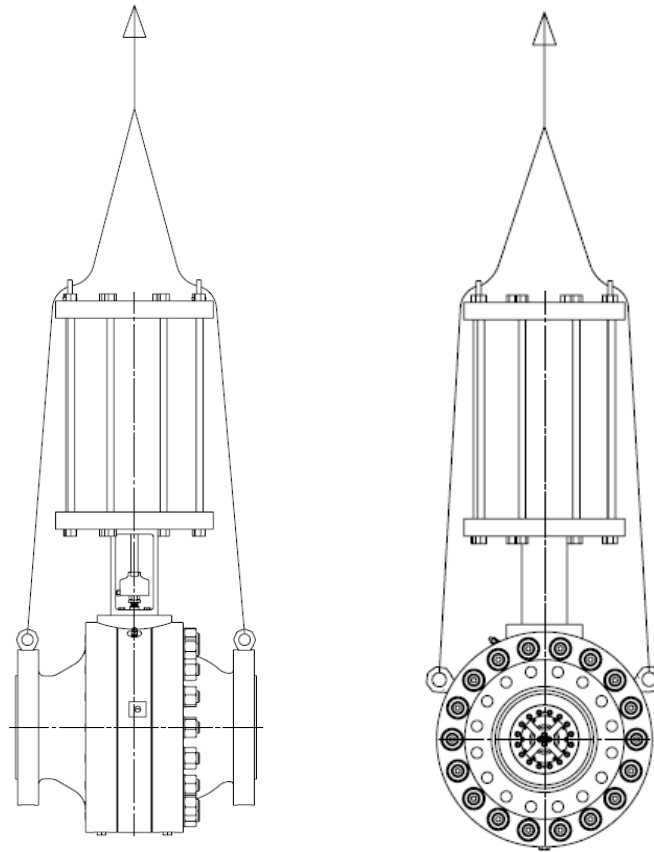

Figure 1.0 - Preferred lifting arrangements when the valve assembly is packed in the Vertical position.
5.2.1.2 Prior to lifting the valve assembly, ensure that the lifting slings are threaded through the Actuator lifting points for stability. Refer to Figure 1.0 which illustrates the preferred lifting technique.